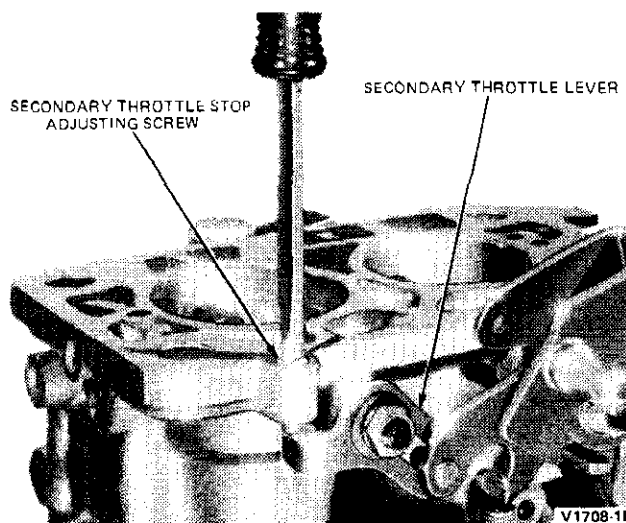

FIG. 13 Secondary Throttle Stop Adjustment
3. Turn the screw in an additional 1/4 turn for a 2.3L I-4 engine (Fig. 13).